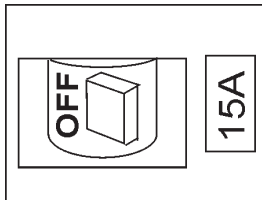

Figure 10. Main Breaker (OFF Position)
2. **NEVER start** the engine with the **main circuit breaker** in the "ON" position. Place the main circuit breaker (Figure 10) in the **OFF** position.